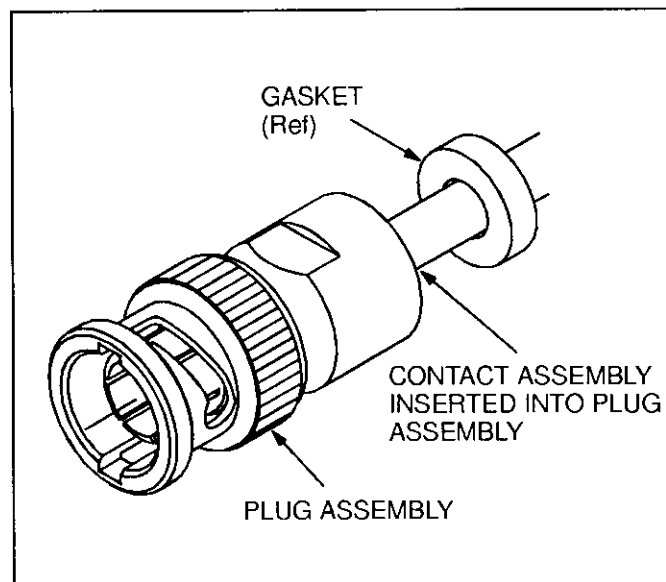

Fig. 7
6. Insert contact into plug assembly until contact snaps into place. See Figure 7.